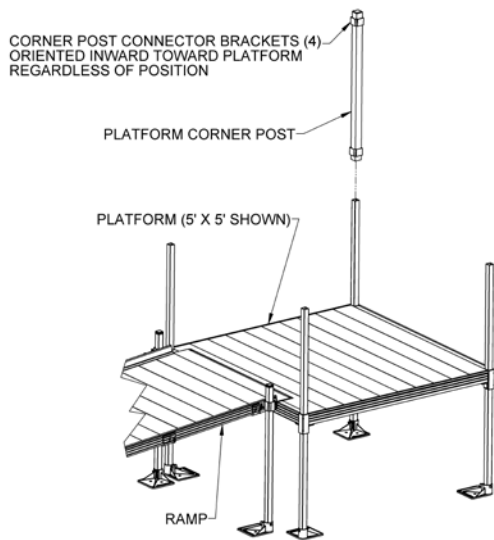

FIG. 25
5.2 There are three basic platform arrangements: turn, turn-back, and straight through. The straight through arrangement is different at a top landing and a “resting” platform so both are covered in this section. Many other platform arrangements are possible when combined into decks, but the following guard installation instructions cover all common installations regardless of the size or shape of the deck. Select the appropriate platform arrangement and install the guards as shown in FIG. 25 through FIG. 34.
- 5.3.1 Place one guard corner post over the support tube (leg) extending out of the platform corner pocket opposite both the door and ramp (FIG. 25). Do not tighten set screws.
- 5.5.1 Both platforms will use the same guard components and follow the same steps as in section 5.3 except one platform is the mirror image of the other (see FIG. 25, 26, 27 & 30).
- 5.8.1 Installation of the guards at a corner is the same as the first two steps of section 5.3. Refer to FIG. 25 and FIG. 26.